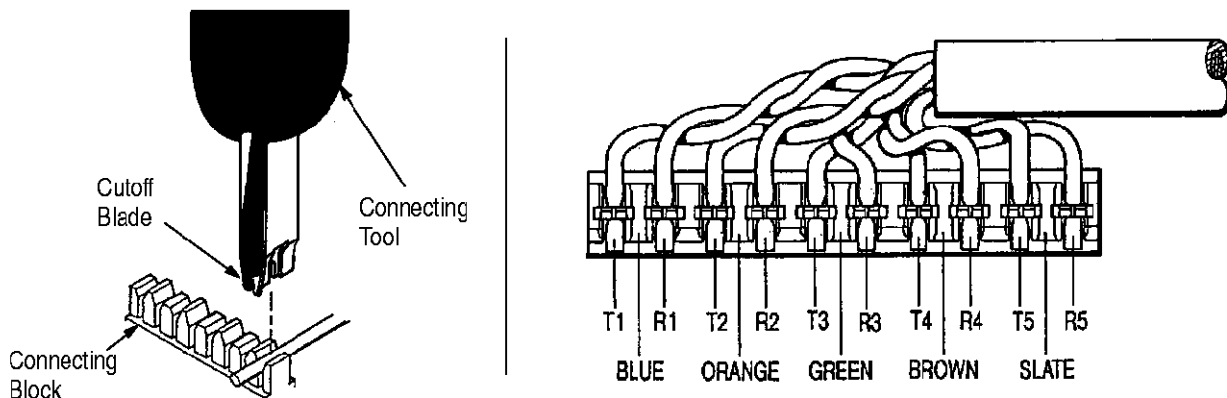

Figure 6
1. Cross-connect wires are terminated in the top of the connecting block using Connecting Tool AX100749 or KRONE Universal Wire Insertion Tool. See Figure 6. Use low impact setting.